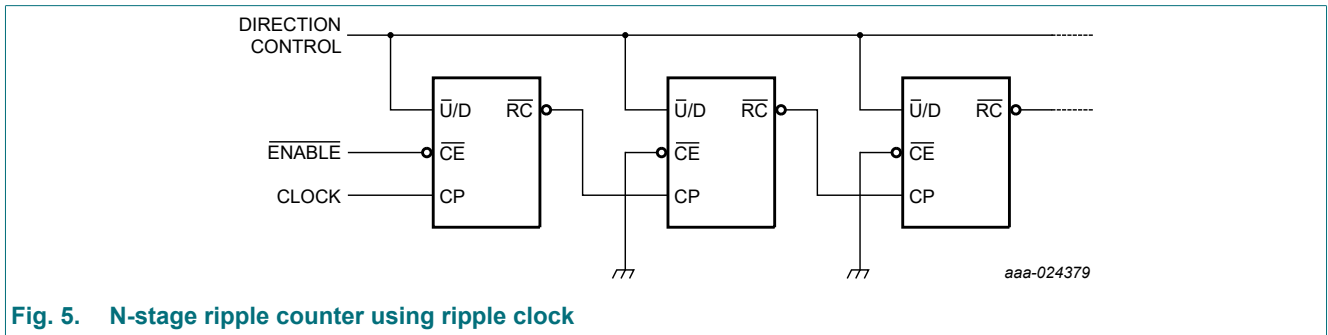
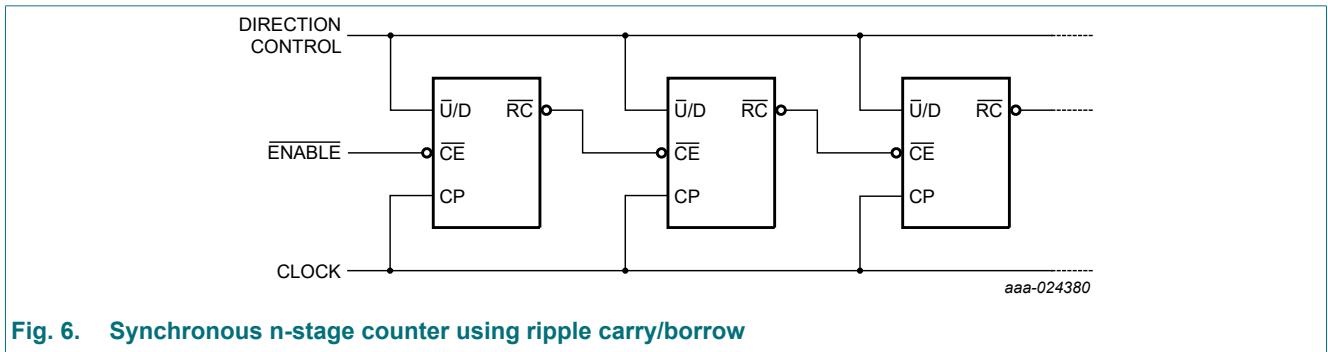
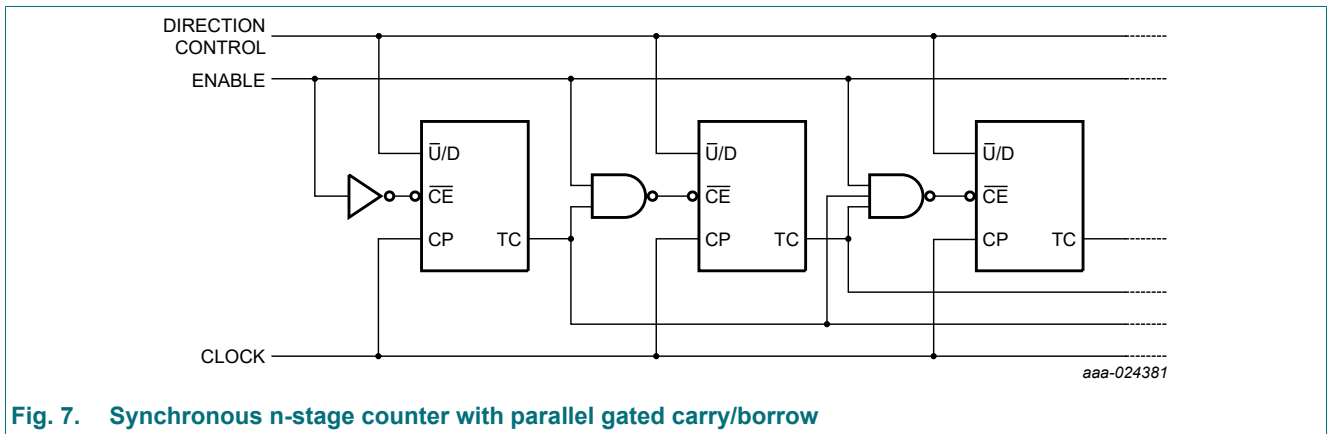

Fig. 5. N-stage ripple counter using ripple clock
Fig. 6. Synchronous n-stage counter using ripple carry/borrow
Fig. 7. Synchronous n-stage counter with parallel gated carry/borrow
The 74HC191 is an asynchronously presettable 4-bit binary up/down counter. It contains four master/slave flip-flops with internal gating and steering logic to provide asynchronous preset and synchronous count-up and count-down operation. Asynchronous parallel load capability permits the counter to be preset to any desired value. Information present on the parallel data inputs (D0 to D3) is loaded into the counter and appears on the outputs when the parallel load ( $\overline{PL}$ ) input is LOW. This operation overrides the counting function. Counting is inhibited by a HIGH level on the count enable ( $\overline{CE}$ ) input. When  $\overline{CE}$  is LOW internal state changes are initiated synchronously by the LOW-to-HIGH transition of the clock input. The up/down ( $\overline{U/D}$ ) input signal determines the direction of counting as indicated in the function table. The  $\overline{CE}$  input may go LOW when the clock is in either state, however, the LOW-to-HIGH  $\overline{CE}$  transition must occur only when the clock is HIGH. Also, the  $\overline{U/D}$  input should be changed only when either  $\overline{CE}$  or CP is HIGH. Overflow/underflow indications are provided by two types of outputs, the terminal count (TC) and ripple clock ( $\overline{RC}$ ). The TC output is normally LOW and goes HIGH when a circuit reaches zero in the count-down mode or reaches '15' in the count-up-mode. The TC output will remain HIGH until a state change occurs, either by counting or presetting, or until  $\overline{U/D}$  is changed. Do not use the TC output as a clock signal because it is subject to decoding spikes. The TC signal is used internally to enable the  $\overline{RC}$  output. When TC is HIGH and  $\overline{CE}$  is LOW, the  $\overline{RC}$  output follows the clock pulse (CP). This feature simplifies the design of multistage counters as shown in Fig. 5 and Fig. 6. In Fig. 5, each  $\overline{RC}$  output is used as the clock input to the next higher stage. It is only necessary to inhibit the first stage to prevent counting in all stages, since a HIGH on  $\overline{CE}$  inhibits the  $\overline{RC}$  output pulse. The timing skew between state changes in the first and last stages is represented by the cumulative delay of the clock as it ripples through the preceding stages. This can be a disadvantage of this configuration in some applications. Fig. 6 shows a method of causing state changes to occur simultaneously in all stages. The  $\overline{RC}$  outputs propagate the carry/borrow signals in ripple fashion and all clock inputs are driven in parallel. In this configuration the duration of the clock LOW state must be long enough to allow the negative-going edge of the carry/borrow signal to ripple through to the last stage before the clock goes HIGH. Since the  $\overline{RC}$  output of any package goes HIGH shortly after its CP input goes HIGH there is no such restriction on the HIGH-state duration of the clock. In Fig. 7, the configuration shown avoids ripple delays and their associated restrictions. Combining the TC signals from all the preceding stages forms the  $\overline{CE}$  input for a given stage. An enable must be included in each carry gate in order to inhibit counting. The TC output of a given stage is not affected by its own  $\overline{CE}$  signal therefore the simple inhibit scheme of Fig. 5 and Fig. 6 does not apply. Inputs include clamp diodes. This enables the use of current limiting resistors to interface inputs to voltages in excess of  $V_{CC}$ .